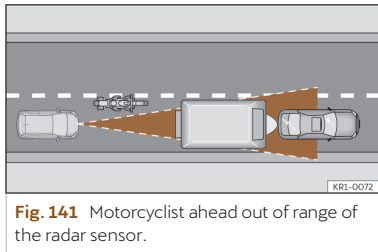

Fig. 141 Motorcyclist ahead out of range of the radar sensor.
- Vehicles that are not aligned while driving or that are outside the sensor's detection area, such as motorcycles >>> **Fig. 141**.